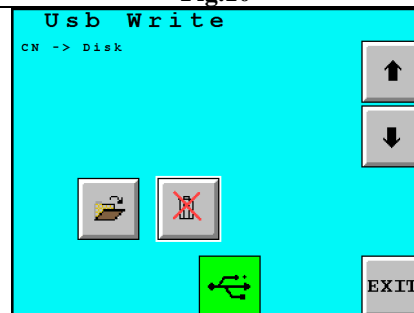

Fig.12
13.1.4 Press the button “CN OUT” . The screen as fig. 12 will appear.
13.1.9 To confirm the removal press the button “CONFIRM” . The previous screen (Fig 12) will appear, wait for the program list existing in the machine memory to appear again.